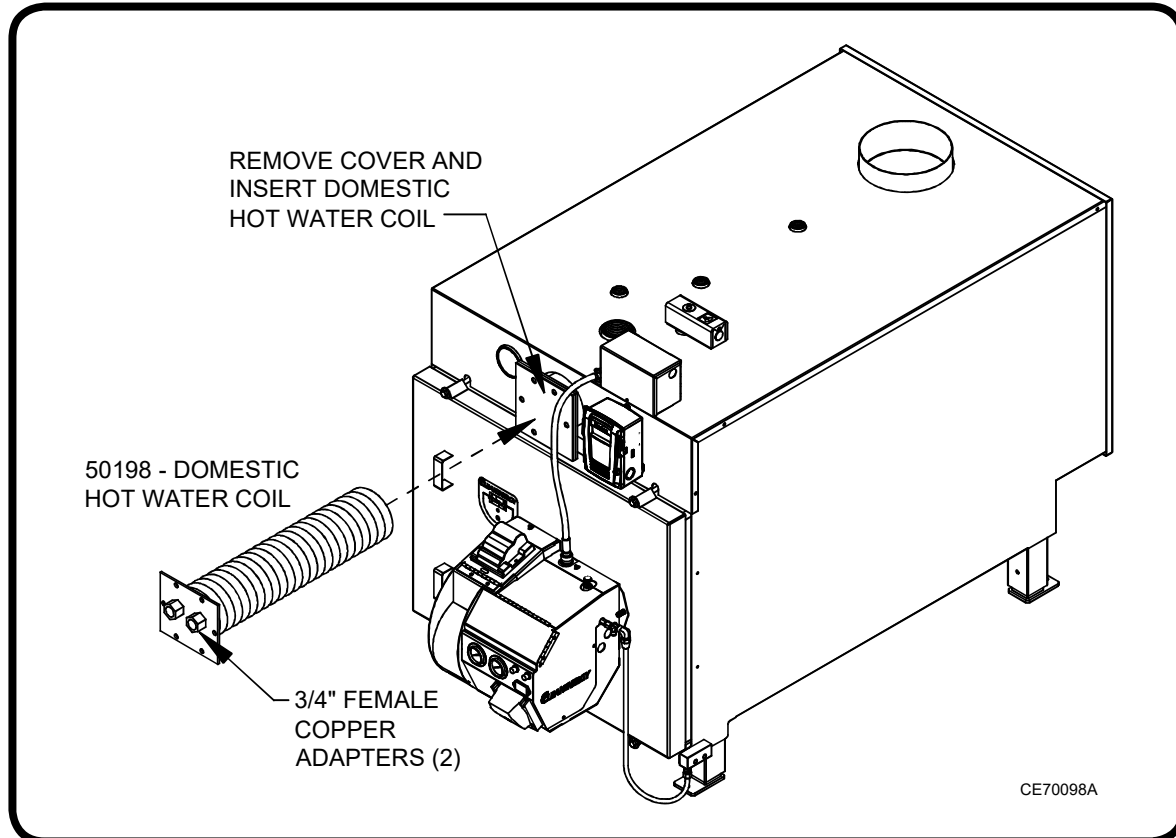

Figure A2: Domestic Hot Water Coil Location
- (1) Refer to Figure A2.
- (2) Remove the six nuts and bolts holding the cover in position.
- (3) Carefully slide the domestic hot water coil, with the rubber gasket in place, into the tube.
- (4) Tighten the hot water coil in position with the six nuts and bolts.